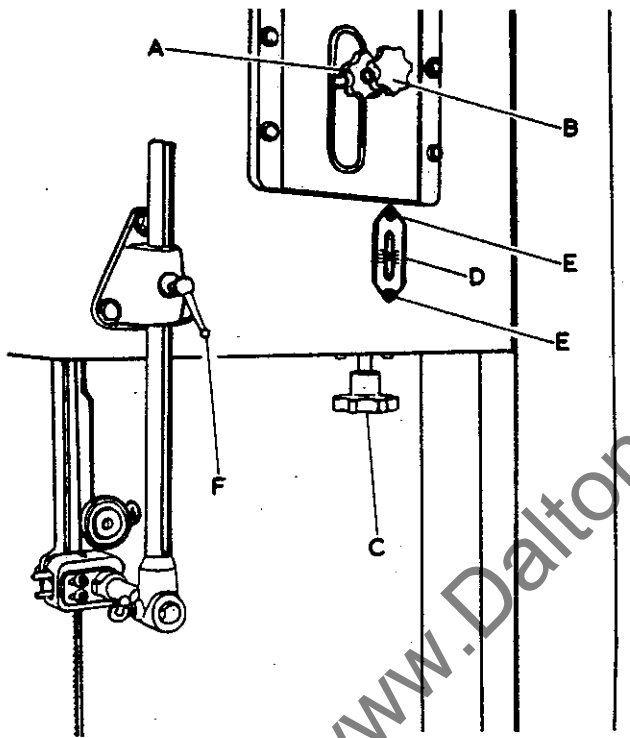

FIG. 5
2. If not running central, loosen handwheel 'A' (Fig. 5) and adjust handwheel 'B' until the saw is tracking correctly i.e. in the centre of both wheels.
To tension the sawblade turn handwheel 'C' in Fig. 5 until the correct tension is reached according to the scale 'D'. The scale gives the correct tension for the width of blade which is being used irrespective of the length of the blade.
2. Check whether the scale indicates the correct sawblade width. If scale is incorrect, loosen two screws 'E' in Fig. 5 and position scale correctly. When set tighten all screws. After the scale has been set in this manner it will read correctly for any width of blade within the range of the machine without further alteration, even if the length of sawblade varies for any given width. For a $\frac{1}{2}$ " blade the pointer should read $\frac{1}{2}$ " etc.